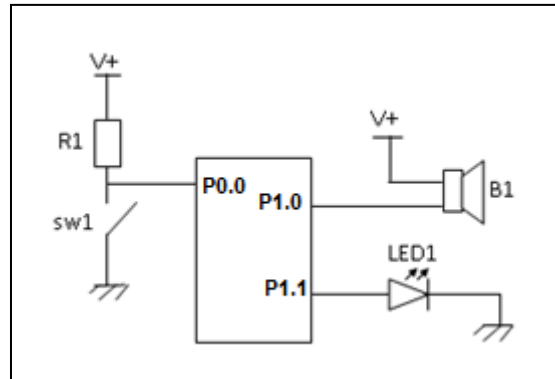

Figure 3: Input/output Connection
Based on the Figure 3, answer the following questions:
- (c) Modify the connection in Figure 3 and the code in 7(b) to allow using external interrupt for switch SW1. (6 marks)